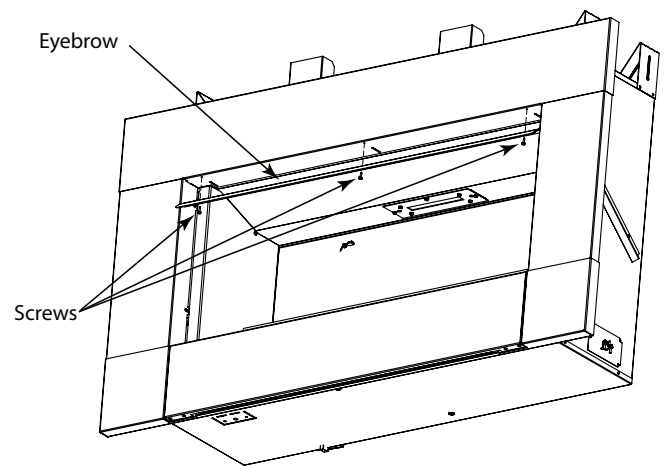

Figure 4
12. When installing this face on the AVFL42NTSC-SR the 1-1/8" eyebrow must be reinstated using three (3) #8x1/2" sheet metal screws. The eyebrow must be attached to the bottom side of the top face. See Figure 4. (If installing WCSS model, use 1-1/8" stainless steel eyebrow shipped with the kit.)